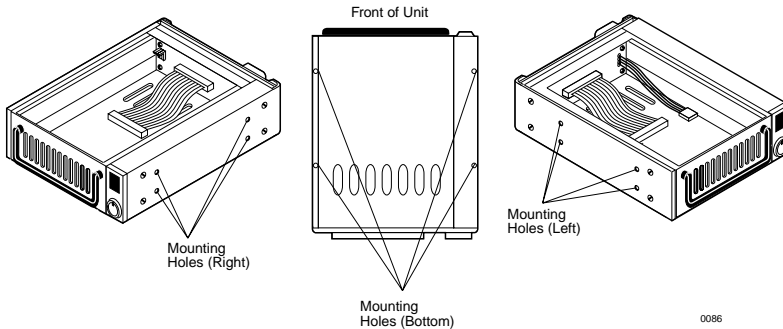

Figure 9: Receiving Frame Mounting Holes
4. With the drive carrier locked in place inside the receiving frame, install the DE100i-A100 into the 5.25" drive opening in the computer or expansion chassis. Use the appropriate guides to position the Data Express, and fasten it into place with the four (4) #6-32 Phillips screws provided. Figure 9 illustrates the location of the mounting holes. Mounting holes are provided on each side and the bottom of the receiving frame to accommodate a variety of mounting configurations. Use the mounting holes which best suit the computer or expansion chassis configuration. Note that bottom mounting holes require self-tapping screws (not provided).